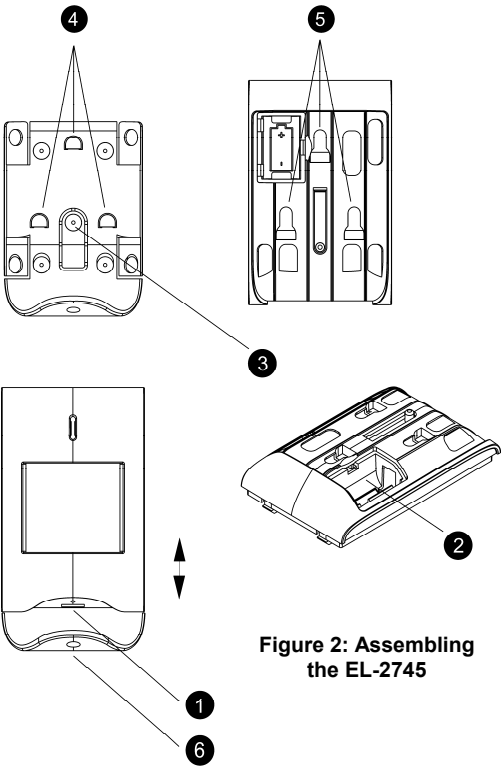

Figure 2: Assembling the EL-2745
1. Open the housing. To do so, slide the detector up while gently pressing it and detach it from the mounting bracket (see Figure 2). Insert a screwdriver in the release slot (see Figure 2, position 1), turn the screwdriver 90° to release the cover.
2. Apply battery power. To do so, open the battery compartment door on the back cover (see Figure 2, position 2), then remove the isolator that separates the battery from the contacts on the battery holder. Close the battery compartment door.
If using the rear tamper switch, insert a screw into the rear tamper mounting hole located in the center of the bracket (See Figure 2, position 3). When the bracket is removed from the wall, the screw causes the tamper release to break away from the bracket and the rear tamper switch is released.
7. Replace the front cover. Align the pins on the mounting bracket with the slots on the detector's base (See Figure 2, position 4 & 5), attach the EL-2745 to the bracket and slide it down while gently pressing it to fit to its place, then attach the screw provided in the detector kit to the bottom of the mounting bracket (See Figure2, position 6).
Battery Replacement: Open the battery compartment door on the back cover (see Figure 2, position 2), replace the battery, attach the EL-2745 to the bracket and slide it down while gently pressing it to fit to its place.